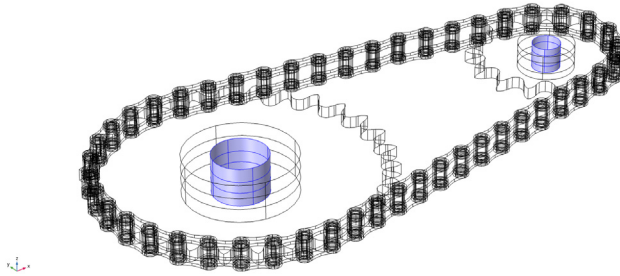

Figure 5: The Sprocket Inner Boundaries selection for creating attachments and hinge joints to mount the sprockets onto shafts.
- **Sprocket Inner Boundaries:** This boundary selection contains the inner surfaces of the sprockets, as shown in Figure 5. It is used for creating attachments and hinge joints for mounting the sprockets onto shafts.